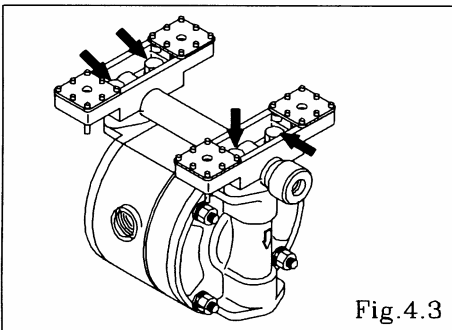

Fig.4.3
- Turn over the main body assembly. [Fig.4.3]
- Remove the 4 retainer bolts from the in manifold, and remove the base and in manifold. [Fig.4.3]